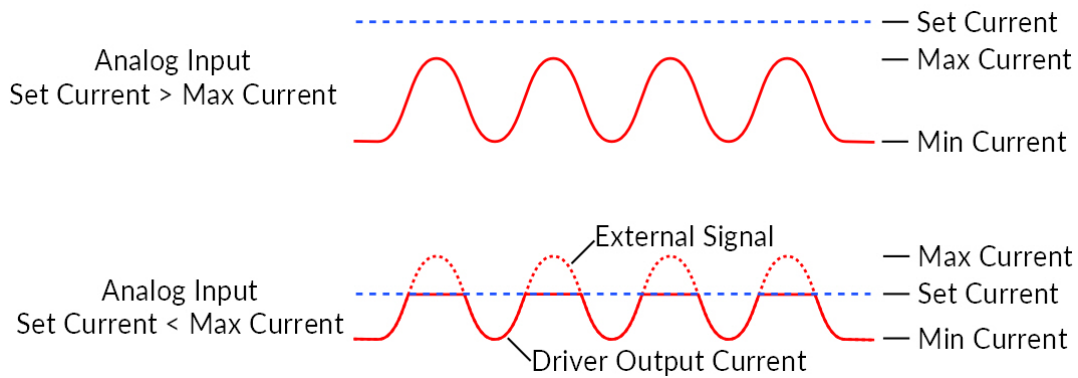

Figure 4.5: Driver and Light Source in External Analog Mode
c) The **External Analog** mode (Fig. 4.5) is similar to the External TTL, except that the current will be set by the voltage on the BNC input (Fig. 4.5, top). On the input BNC, a maximum voltage signal corresponds to a maximum driver current. Should the current set on the light source be less than the maximum current, any voltage corresponding to a higher current will clip the output waveform (Fig. 4.5, bottom). To avoid any clipping of the output waveform, the maximum current setting must be equal to or greater than the corresponding maximum analog input voltage. See the corresponding light source manual to find the voltage/current relationship. This mode has no additional sequence options.